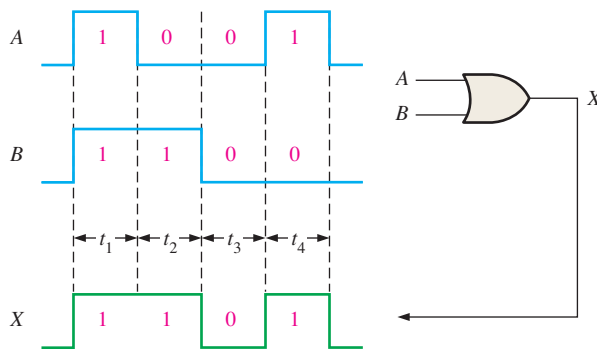

FIGURE 3–20 Example of OR gate operation with a timing diagram showing input and output time relationships.
Now let's look at the operation of an OR gate with pulse waveform inputs, keeping in mind its logical operation. Again, the important thing in the analysis of gate operation with pulse waveforms is the time relationship of all the waveforms involved. For example, in Figure 3–20, inputs *A* and *B* are both HIGH (1) during time interval t_1 , making output *X* HIGH (1). During time interval t_2 , input *A* is LOW (0), but because input *B* is HIGH (1), the output is HIGH (1). Both inputs are LOW (0) during time interval t_3 , so there is a LOW (0) output during this time. During time interval t_4 , the output is HIGH (1) because input *A* is HIGH (1).